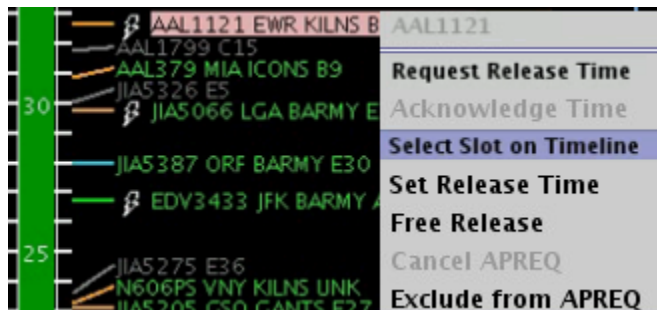

Figure 154. Right-click on APREQ flight to “Select Slot on Timeline.”
**Step 1:** Right-click on the APREQ flight’s Timeline datablock (Figure 154). When right-clicking on the flight’s Timeline datablock, the slots should automatically be drawn on the Timeline.